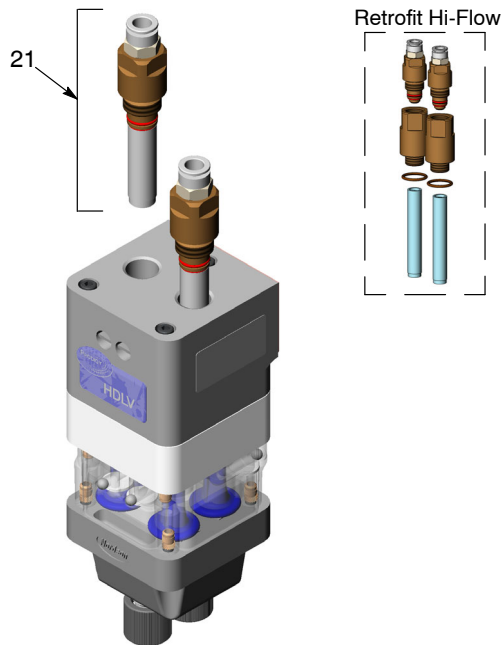

Figure 8 Installing Fluidizing Tube Assembly
14. See Figure 8. Install fluidizing tube assemblies (21) into pump and tighten securely.